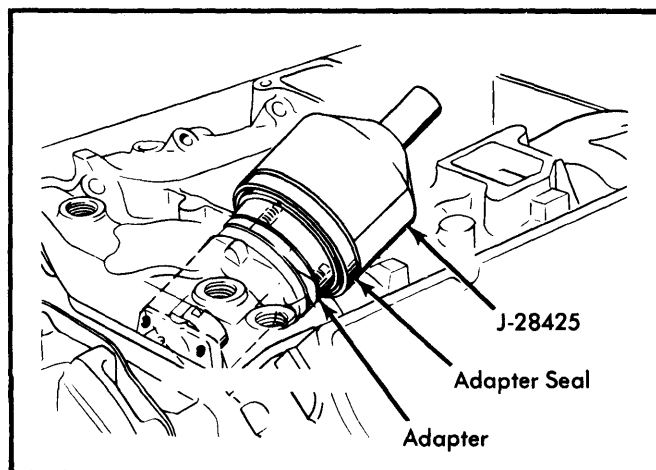

Fig. 11 Installation Of New Adapter Seal
5) Push seal onto pump adapter using the installation tool. See Fig. 11.